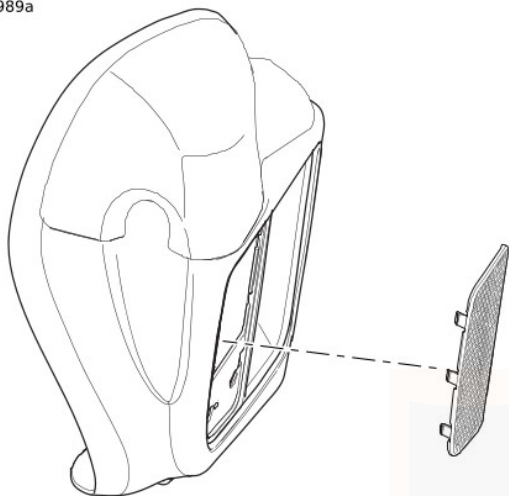

Figure 74. Lower Fairing Grille Panel
1. See Figure 74. Remove outer grille from lower fairing.